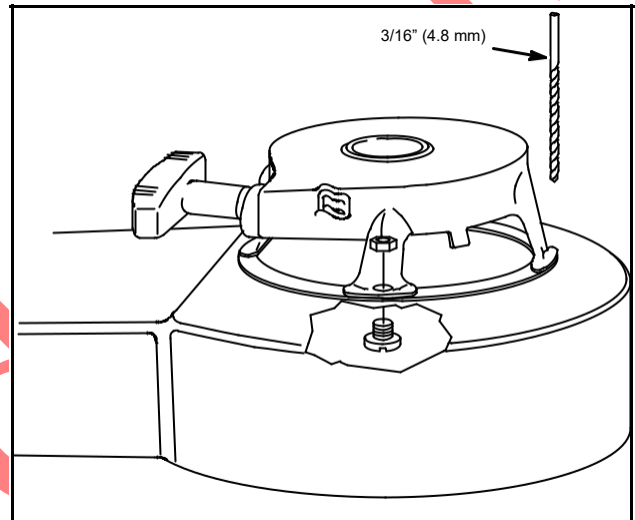

Fig. 16
4. Fasten securely with nuts as shown in Fig. 16.